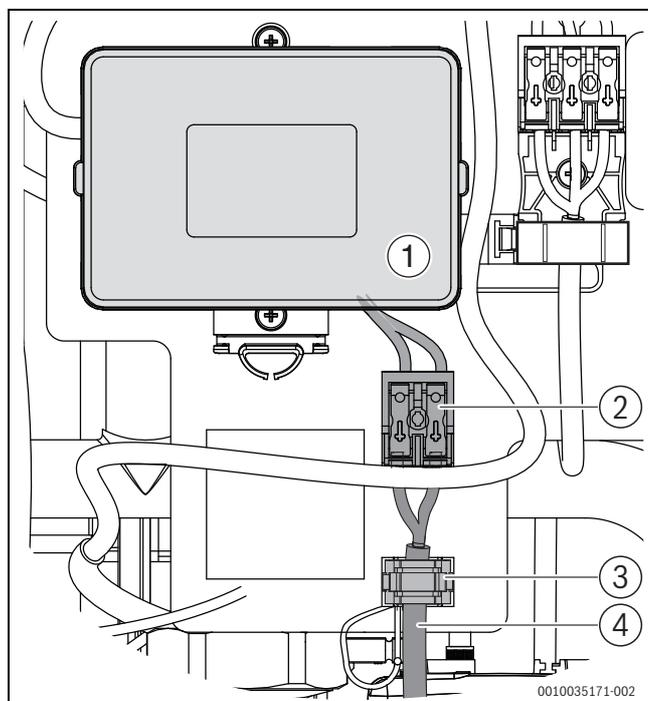

Fig. 32 Terminal on the relay box
- ▶ Connect the stripped ends of the cable to the terminal of the relay box and lock the terminal (→ Fig. 32 [2], [1] and Chapter 12.4, page 40).